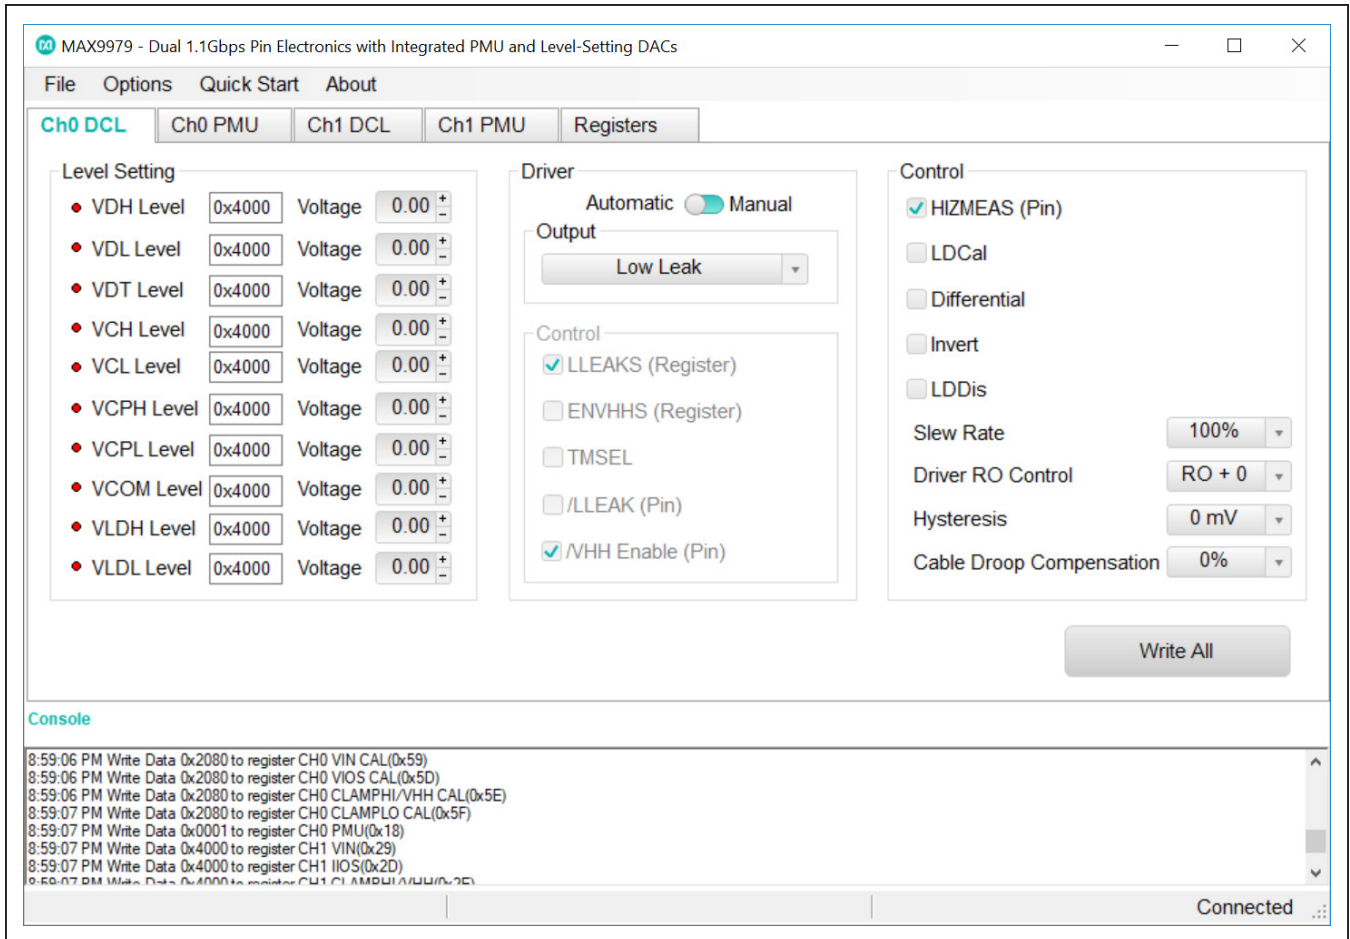
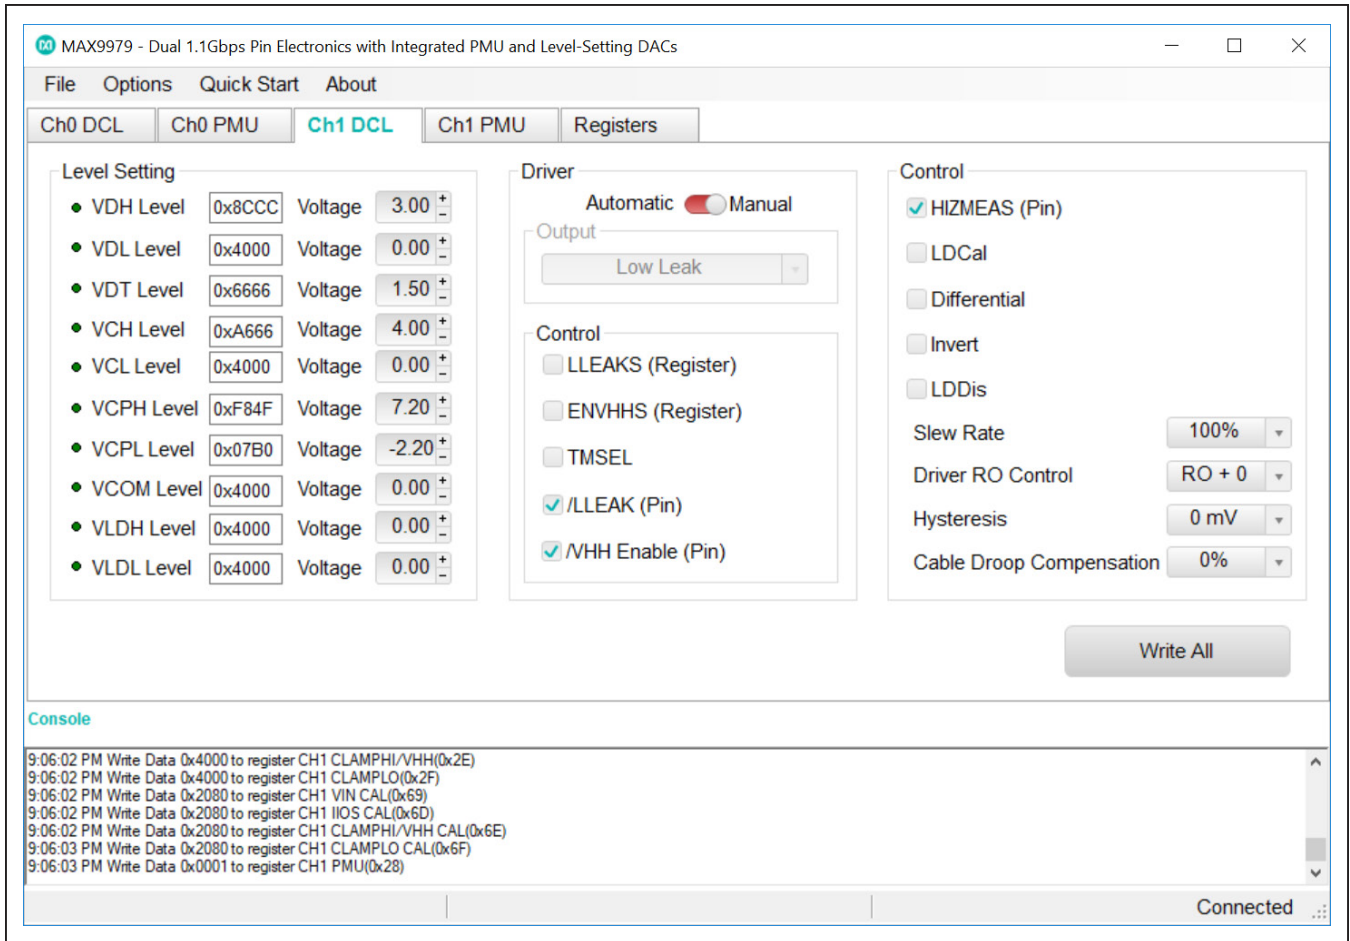

Figure 1. MAX9979 EV Kit Software Main Window (Ch0 DCL Tab)
Figure 3. MAX9979 EV Kit Software Main Window (Ch1 DCL Tab)
- 16) Start the MAX9979 EV kit software by double clicking the icon on the desktop. The EV kit software main window appears, as shown in Figure 1.
Ch0 DCL and **Ch1 DCL** tab sheets (Figure 1 and Figure 3) are identical and are for channels 0 and 1, respectively. These tab sheets contain **Level Setting**, **Driver**, and **Control** group boxes. Click on **Write All** button to load the data into the MAX9979 through SPI interface.
Tab sheets (Figure 1 and Figure 3) are identical and are for channels 0 and 1, respectively. These tab sheets contain group boxes. The value can also be typed into the edit boxes inside the **Voltage** group box.